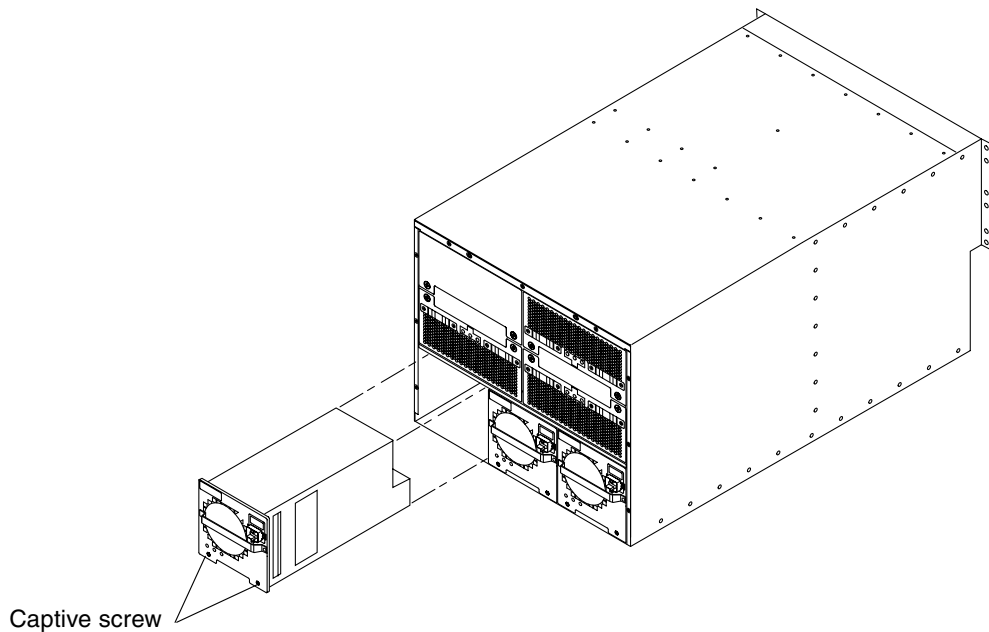

FIGURE 12-30 Removing a Power Supply—Sun Fire 3800 System
FIGURE 12-30 illustrates how to remove a power supply. You must remove all the power supplies and the filler panels as well.
7. Install the power supplies and power supply filler panels (FIGURE 12-30).